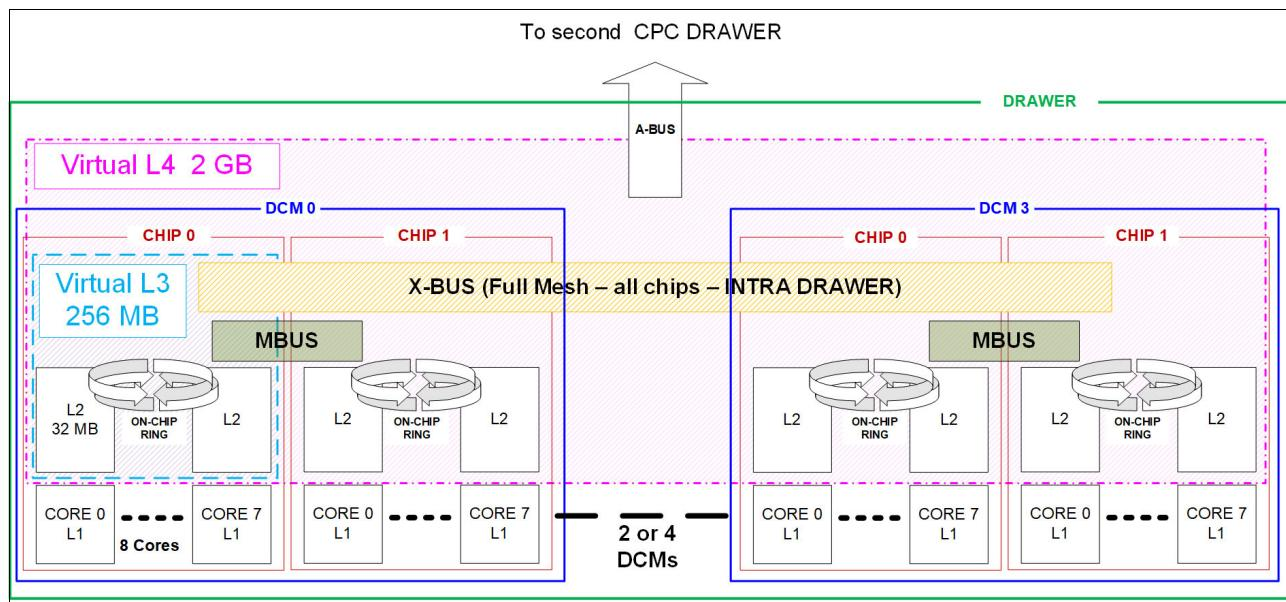

Figure 9-5 IBM z16 A02 and IBM z16 AGZ M/T 3932 fully populated CPC Drawer Cache structure
IBM z16 A02 and IBM z16 AGZ processor memory and cache structure are shown in Figure 9-5 on page 368. The physical L3 cache (on chip) and System Controller (SC) SCM (physical L4 cache for IBM z15), previously implemented in EDRAM, have been removed and replaced on IBM z16 A02 and IBM z16 AGZ virtual L3 and L4 cache structure.